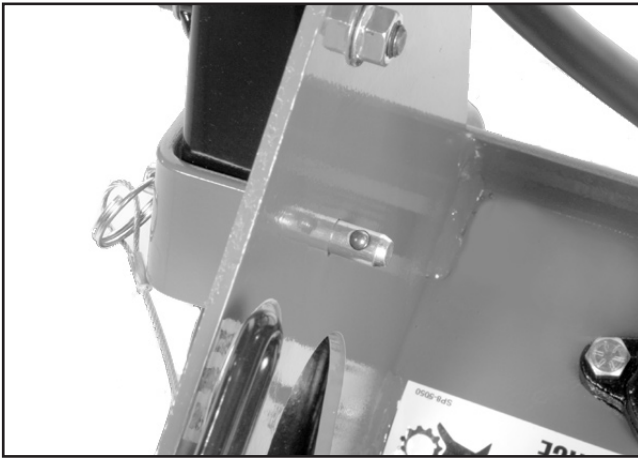

FIGURE 13
2) To place the operator handle in the work position, move the handle upright so that the ball-detent pins can be inserted through the operator handle and main frame. Determine the ball-detent pins are inserted through the operator handle and main frame to fully expose the ball detent. FIGURE 13